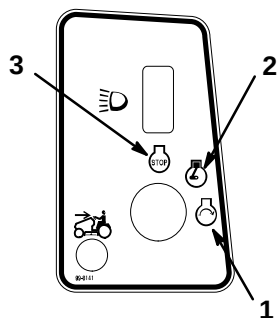

Figure 9
5. Turn the ignition key clockwise and hold it in the "START" position (Fig. 9). When the engine starts, release the key.
2. Turn the ignition key to “OFF” (Fig. 9).